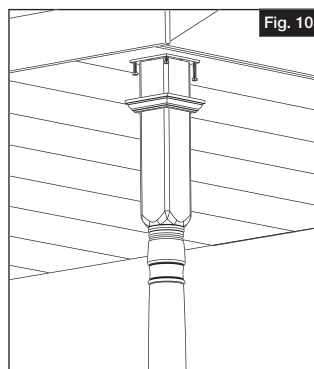

Fig. 10
- c. Attach top mounting plate to roof using $\frac{5}{16}$ " galvanized Lag Bolts x 2" long (not included) (Fig. 10).